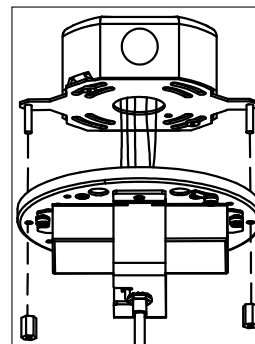

Figure 3: Base Mounting [1/2]
6. Align and attach pendant base to mounting kit using [2] (provided) coupling nuts. [Figure 3]